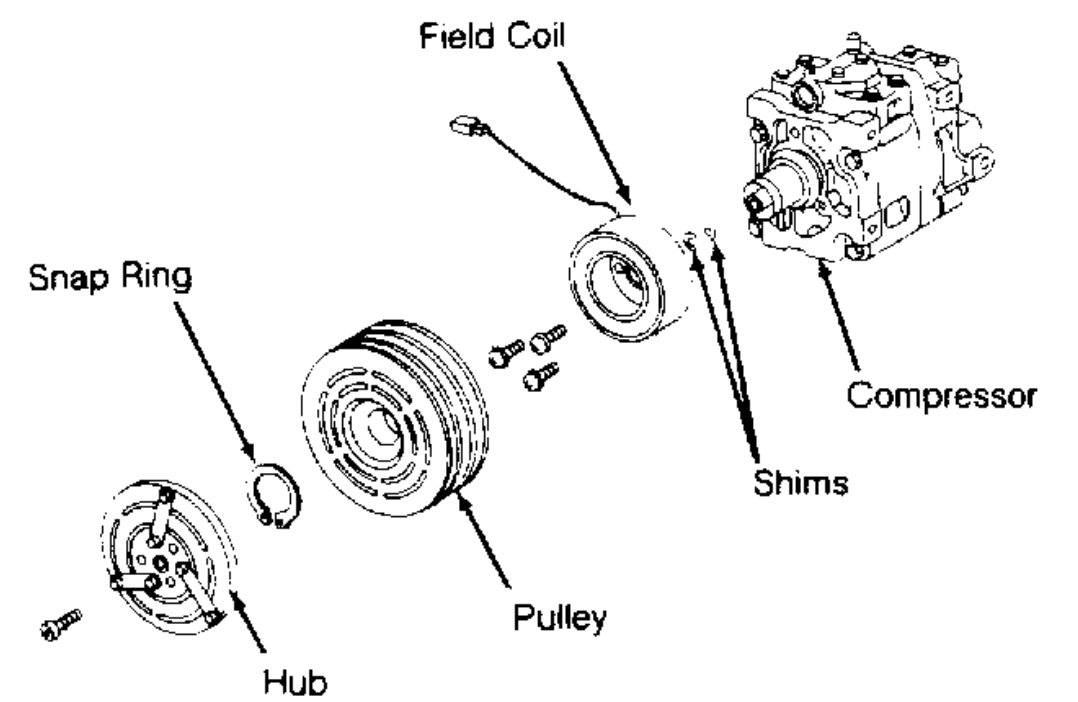

Fig. 12: Exploded View of Rotary Vane Compressor (Matsushita)
2. Remove snap ring. Using a puller, remove pulley. Disconnect electrical leads from field coil. Remove 3 field coil mounting bolts. Remove field coil. See Fig. 12 . To install, reverse removal procedure.
2. Remove shims from pressure plate. Remove snap ring from compressor. Tap rotor off shaft with plastic hammer. Disconnect stator wire from housing. Remove snap ring from inside stator. Remove stator. See Fig. 12 .